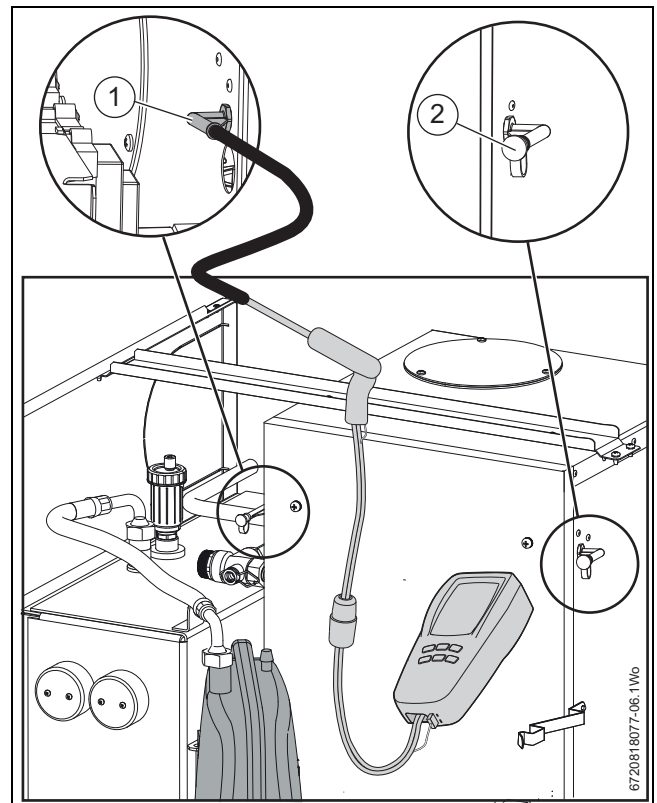

Fig. 47 Flue integrity test
The integrity of the flue system and performance of the appliance can be checked via the sample points at the top left hand side of the combustion chamber, refer to figure 47.
- ▶ Remove cap on the flue gas sample point [1], as shown in figure 47 and connect a flue gas combustion analyser. Replace the cap after use.